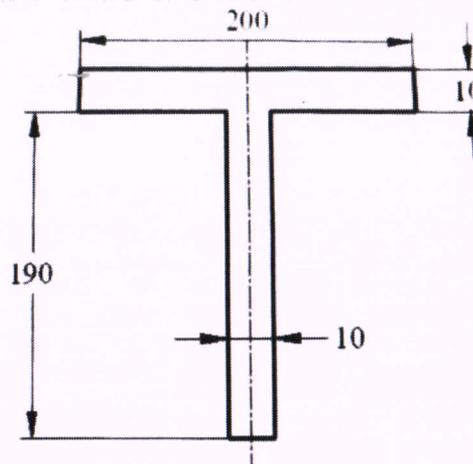

Fig. 4
- 3 a) A simply supported beam, 6m long is loaded with uniformly distributed load of 50 kN/m (10) over the entire span. Draw the shear force and bending moment diagram for the loaded beam. At a section 1.2 m from its left end, find shear force and bending moment magnitudes to be resisted. Also determine the magnitudes of maximum shear stress and maximum bending stress induced in the beam section. The cross-section of the beam is shown in Fig.4